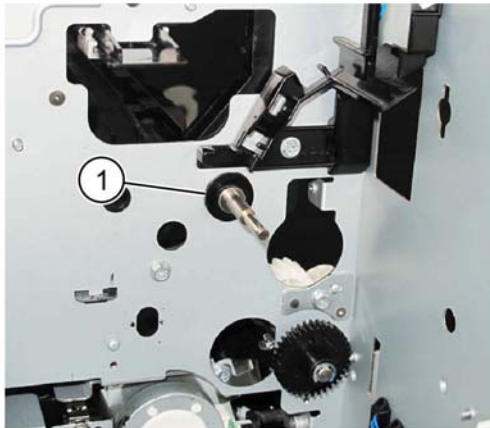

Figure 3 Rear bearing removal
10. Remove the rear bearing, **Figure 3**.